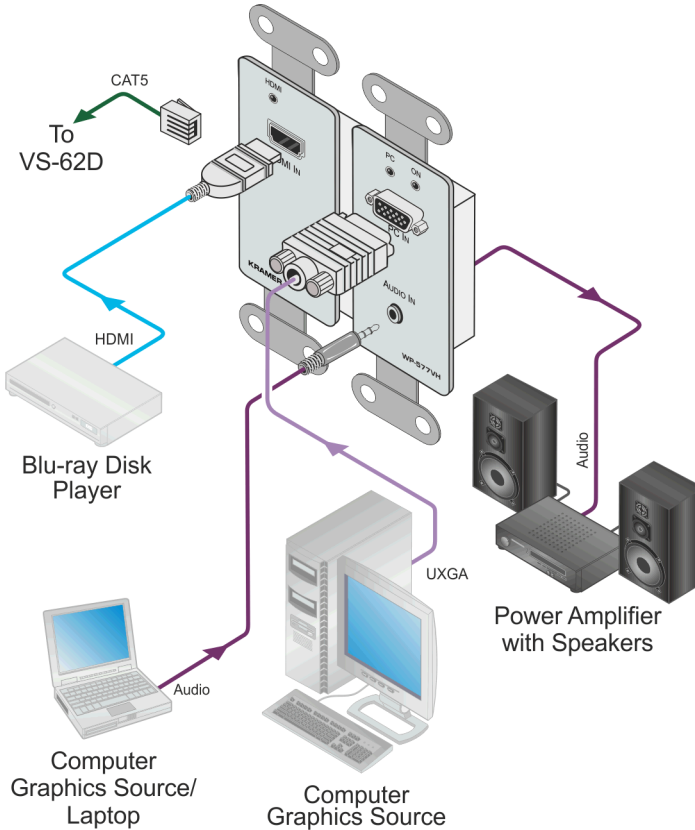

Figure 3: Connecting the WP-577VH Wall Plate
| Figure 3: Connecting the WP-577VH Wall Plate | 9  |
To connect the **WP-577VH** as illustrated in the example in Figure 3:
3. If not using PowerConnect, connect the power adapter to the **WP-577VH** and to the mains electricity (not shown in Figure 3).